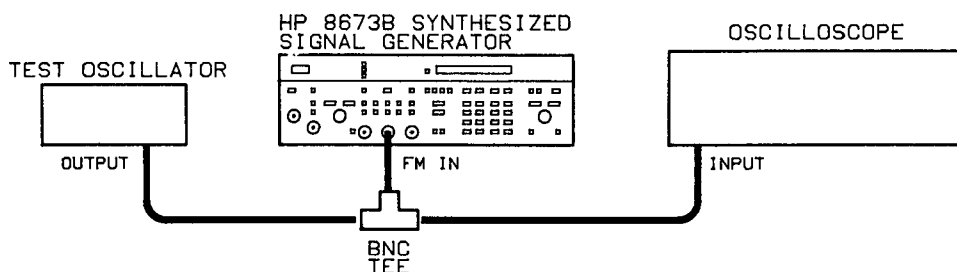

Figure 8-29. FM Amplifier Check, Initial Test Setup
23. Connect the test equipment as shown in figure 8-29.